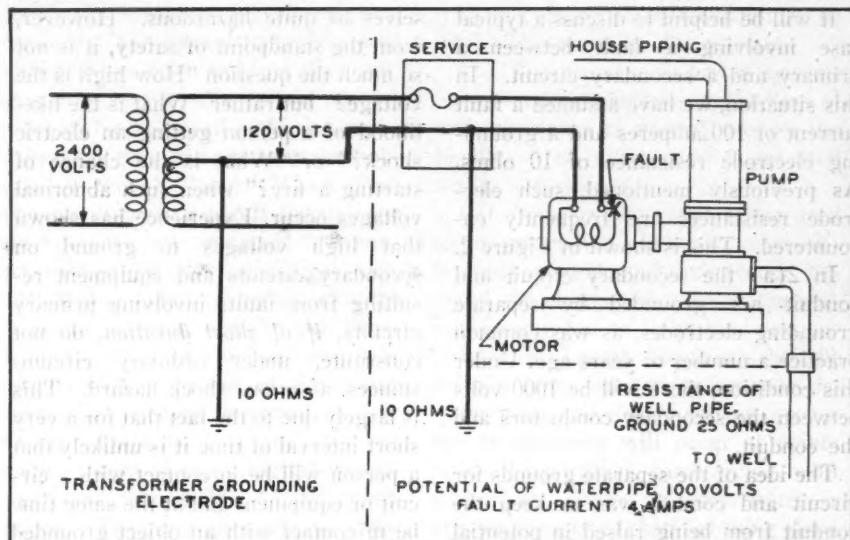

FIG. 4—Fault conditions with unbonded private water system.
(1) The use of such piping systems for grounding purposes, regardless of their resistance to ground, reduces the likelihood of difference of potential within a residence.
(2) If the water system is not used as the grounding electrode, large differences of potential may occur between the electric wiring and the piping system due to lightning, particularly in rural areas. Since it is difficult to have large separations between the water pipes and electric wiring, arcing due to lightning will occur at points of small separation. Such arcing, with power arc follow-up, constitutes a greater fire hazard than lightning alone where power wires are not involved.
(3) Most private water systems today have an electric pump with the motor frame in contact with the piping system. If the wiring system is not connected to the water piping systems, large potentials may develop between the winding and the frame of the motor due either to lightning or a fault involving the primary circuit. Such potentials frequently cause insulation failure and a cross between the live circuit conductor and the frame. As will be discussed later, where the resistance of the water pipe is more than a few ohms, such a fault will not operate the branch fuses and the water pipe will remain energized at a voltage approaching 120 volts. This latter situation is illustrated in Figure 4.